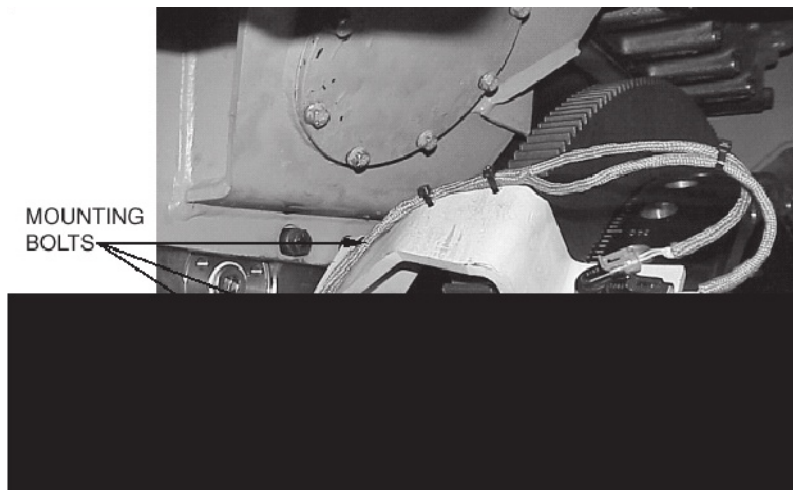

Figure 7.13 *Sensor Bracket Mounting Bolts.*
3. Slightly loosen the sensor bracket mounting bolts as shown in Figure 7-13.
4. Remove the appropriate plug (40 psi outboard, 120 psi inboard) Item 5 as shown in Figure 7.13, and set it aside.
5. Using the snap-ring pliers, remove the snap-ring that secures the appropriate check valve, either item 8, #40053449 (Vendor #2445) or item 9, #40053450 (Vendor #2410) shown in Figure 7.13. Use a long instrument with a barbed end (such as a dental pick) to grab the inside of the check valve and slide it out of the manifold (check valve has an O-ring seal and will not slide easily).